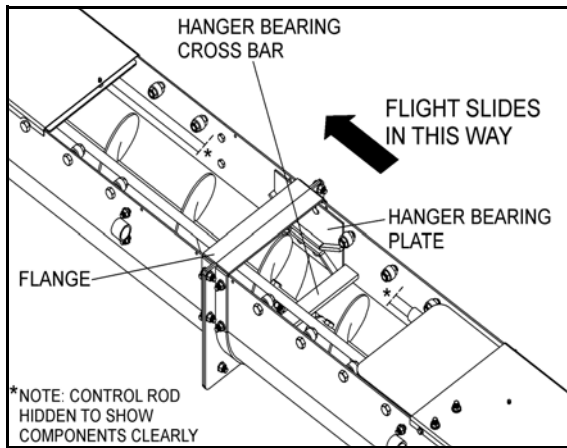

Figure 4.14
4. Rotate and level hanger bearing cross bar on the top side of core pipe. Use duct tape to secure hanger bearing cross bar in this position. This will help with the alignment when installing the flight (Figure 4.14).
Important: *Ensure flight is installed straight, and that it does not sag, shake, or bounce, as this can cause the hanger bearing cross bar to break free. Check if the hanger bearing cross bar is located in the guide tracks on both hanger bearing plates and close to the center. If it is off slightly, this will not affect the function. Refer to Figure 4.14 and 4.15.*